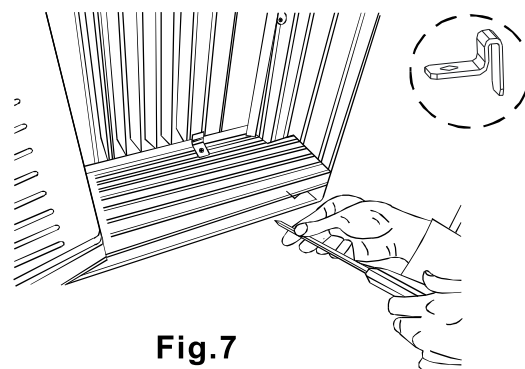

Fig.7
- A. Place the frame lock between the frame extensions and the window sill as shown (Fig.7). Drive $3/4''$ (19mm) or $1/2''$ (12.7mm) locking screws through the frame lock and into the sill.